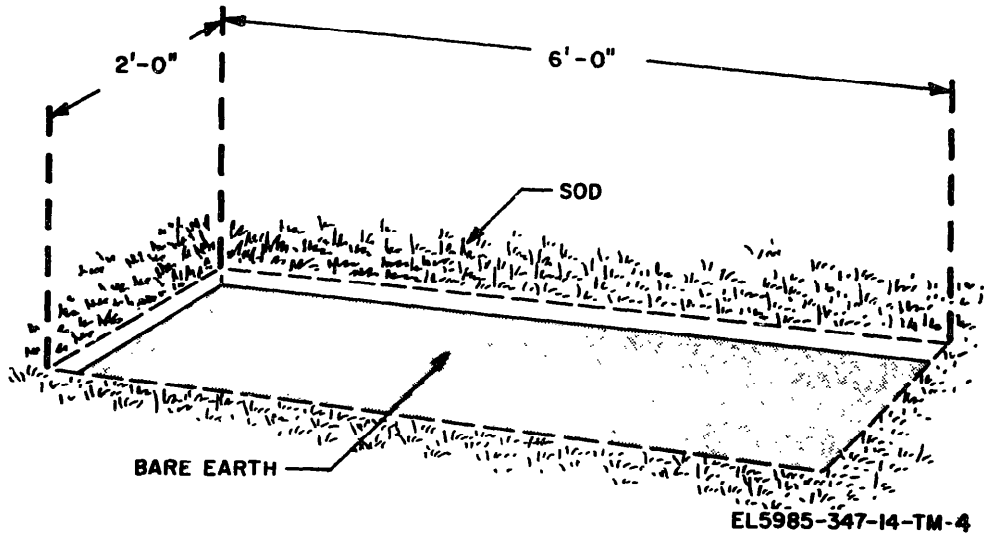

Figure 2-3 . Clearing vegetation
- a. After selecting the site and the position for the base plate, prepare the site by removing all vegetation and/or sod. This area should be slightly larger than the base plate assembly, or 2 feet by 6 feet (.60 x 1.82 m). Refer to figure 2-3.